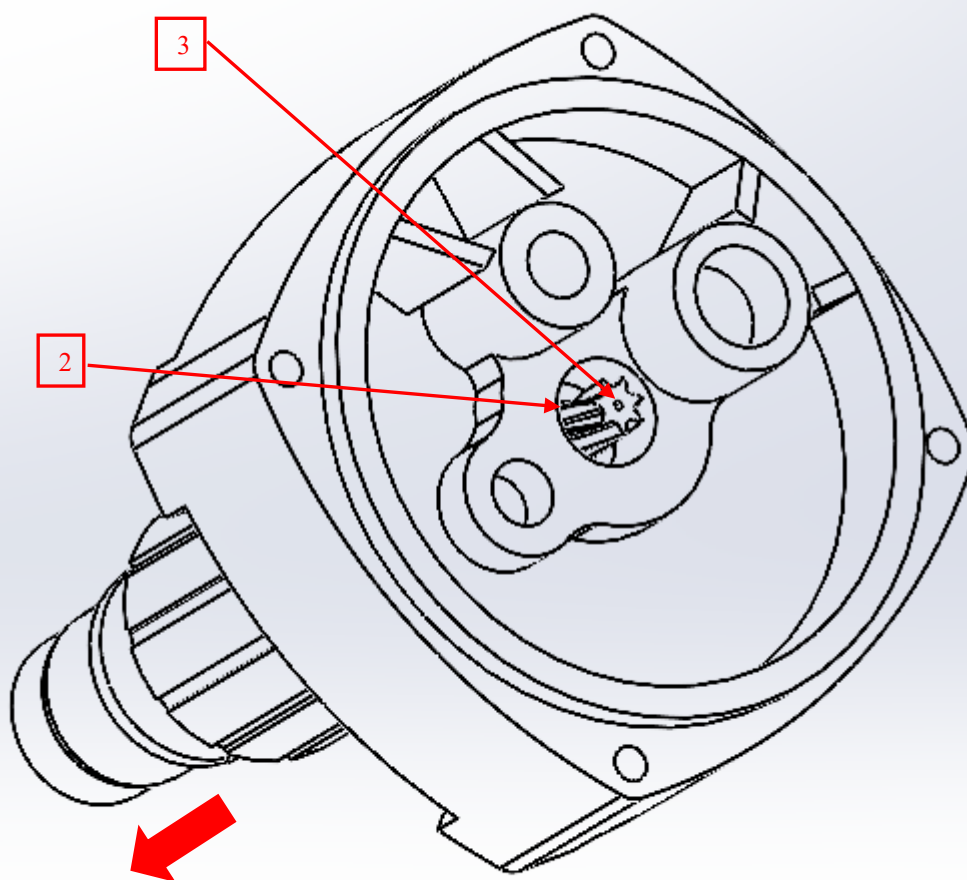

Figure 5.16
- 5.5.6 Remove the seeger ring as in figure 5.16 – posizione 2;
- 5.5.7 Gently tap on position 3 (figure 5.16) and proceed with the removal of the armature by pulling in the direction of the arrow.